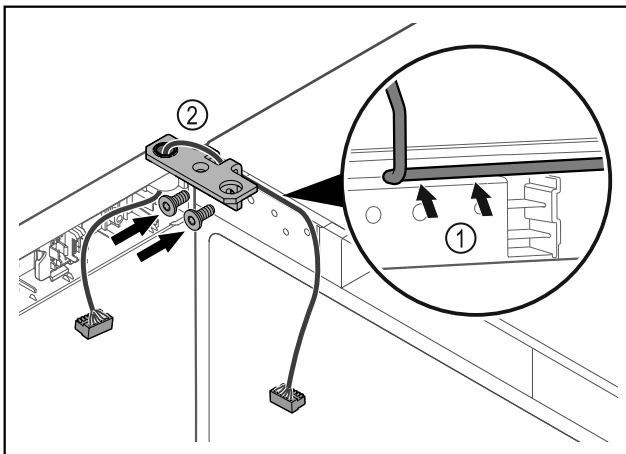

Fig. 35
- ▶ Feed the cable through the recess in the hinge and lay it carefully Fig. 35 (1).
- ▶ Screw on the hinge Fig. 35 (2).